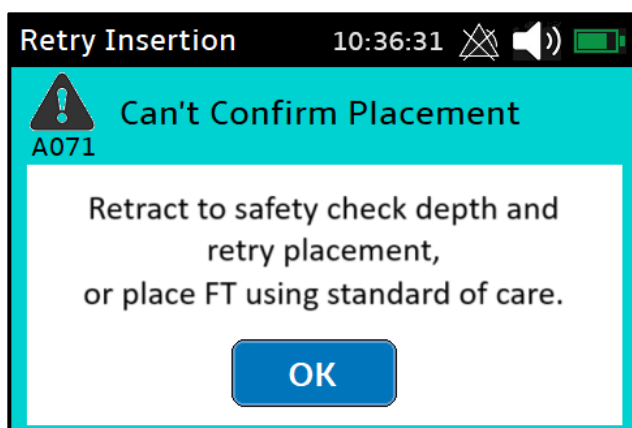

Figure 15: Placement Failure Alert
- If the feeding tube appears to be curled or stuck in the esophagus (i.e., stomach tissue is still not detected after 3 consecutive “too shallow” results), a notification is shown indicating that placement cannot be confirmed (Figure 15). In this scenario, the user should retract the feeding tube out of body and restart the Insert Feeding Tube procedure.